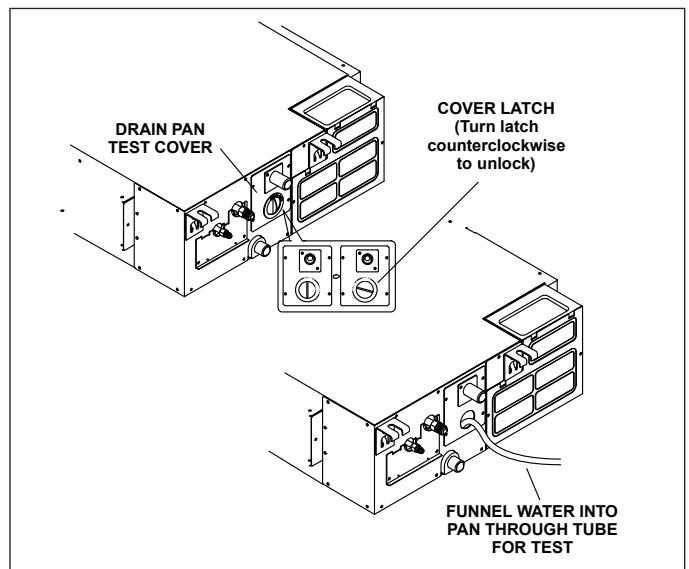

Figure 13. Condensate Drain Test
- If the unit is being installed in an application that includes a sheet rock (plasterboard) ceiling, it is required that an access panel be installed in a suitable location. This will also allow access for future maintenance. Access is required during the start up process to test the condensate disposal system. See "Figure 13. Condensate Drain Test" on page 10.